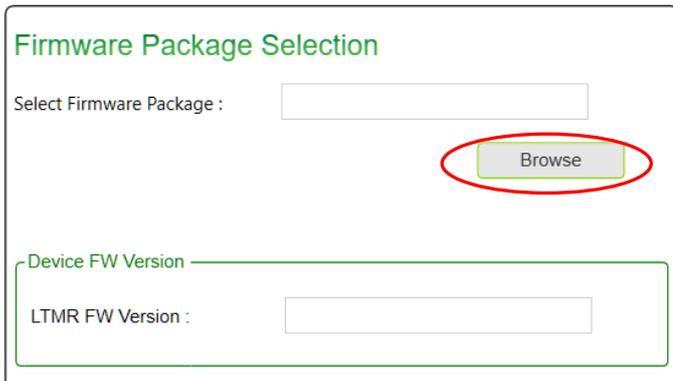
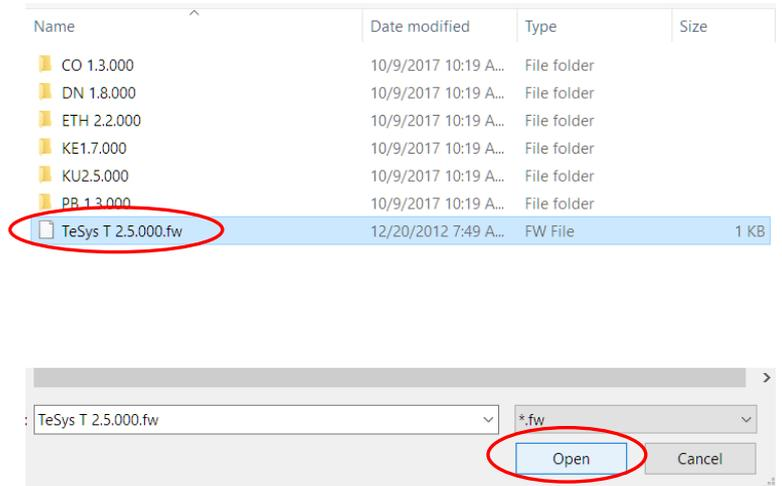

Figure 7
Figure 8
3. In the “Firmware Package Selection” field, click the “Browse” button, as in Figure 7, and navigate to the unzipped Tesys T firmware file, as in Figure 8. Open the file corresponding to the desired firmware, and verify that the correct version has appeared in the Device FW Version field, as in Figure 9.